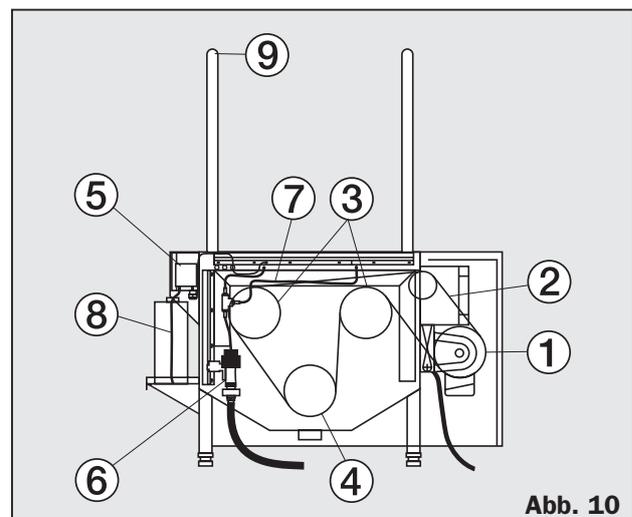

Abb. 10
17. Spare Parts (refer to Fig. 10)